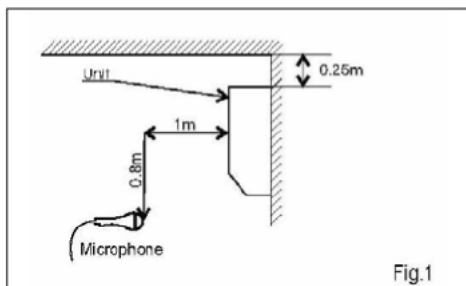

Figure 1. Wall Mounted
7.2 Sound Pressure Level Spectrum (Measured as Figure 1)